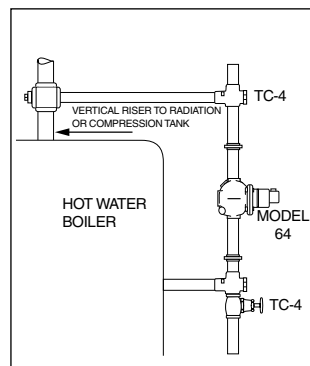

Figure 1
**Figure 1.** Connect the upper equalizing pipe to the riser going to the radiation or to the compression tank. Connect the lower equalizing pipe to any available opening in the side of the boiler. **NOTE:** If no opening is available in the side of the boiler, connect the lower equalizing pipe into the drain connection.